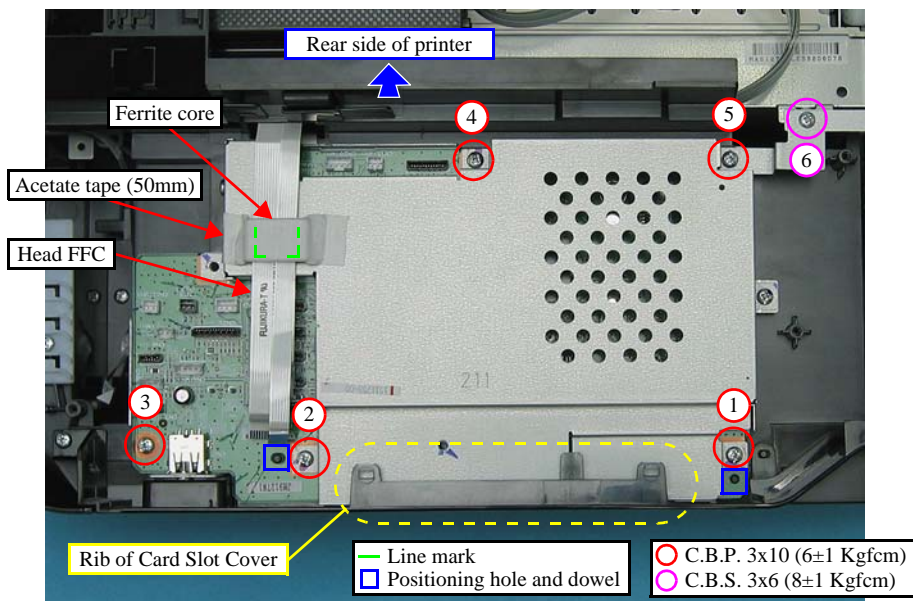

Figure 4-38. Removing the Main Board Unit (2)
- When installing the Main Board Unit, align the positioning holes (x2) of the Main Board Unit with the dowels (x2) of the Card Slot Cover. (See Figure 4-38.)
- When installing the Main Board Unit, put the Head FFC through the ferrite core, align the ferrite core with the line mark of the Shield Plate M/B Upper and secure it with acetate tape. (See Figure 4-38.)
- Tighten the screws in the order given in Fig. 4-38.